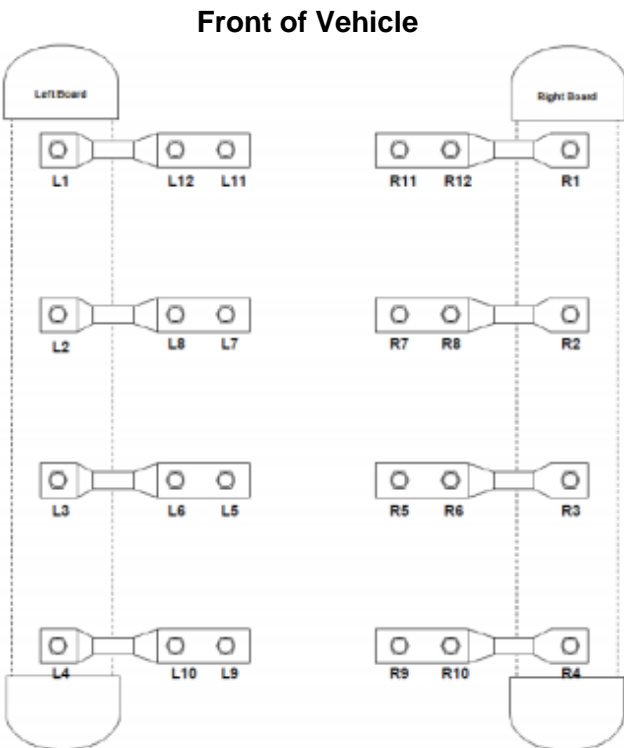

FIG 2
- 5) Torque fasteners in order as shown in FIG 2.